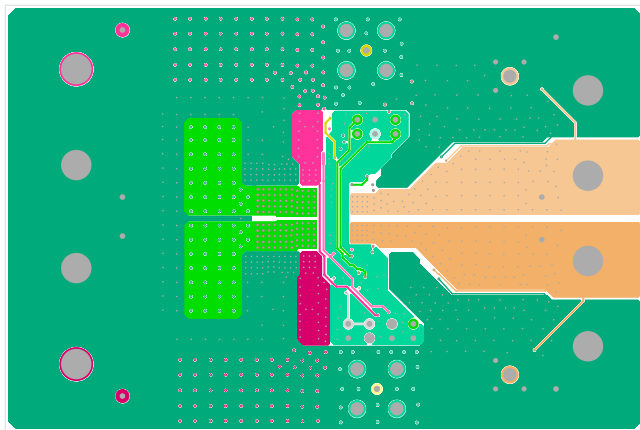

FIGURE 5. LAYER 2
2. Phase 1 and Phase 2 pads are switching nodes that generate switching noise. Keep these pads under the module. For noise-sensitive applications, it is recommended to keep phase pads only on the top and inner layers of the PCB; do not place phase pads exposed to the outside on the bottom layer of the PCB. To improve the thermal performance, the phase pads can be extended in the inner layer, as shown in Phase 1 and Phase 2 pads on layer 2 (Figure 5) for this dual 15A evaluation board. Make sure that layer 1 and layer 3 have the GND layers to cover the extended areas of phase pads at layer 2 to avoid noise coupling.